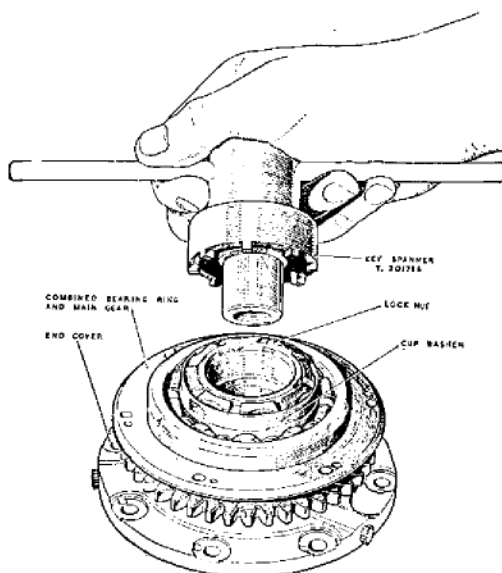

Fig. 17. Securing end-cover bearing race to bearing sleeve
drive gear and bearing ring (56) of the lower pump assembly. Locate both assemblies on to their respective bearing sleeves. Mount the large cup-washer (60) in position over the bearing and secure the assembly with the serrated lock nut (59), using spanner T.201736 (fig. 17) closing the cup washer with tool T.228558.